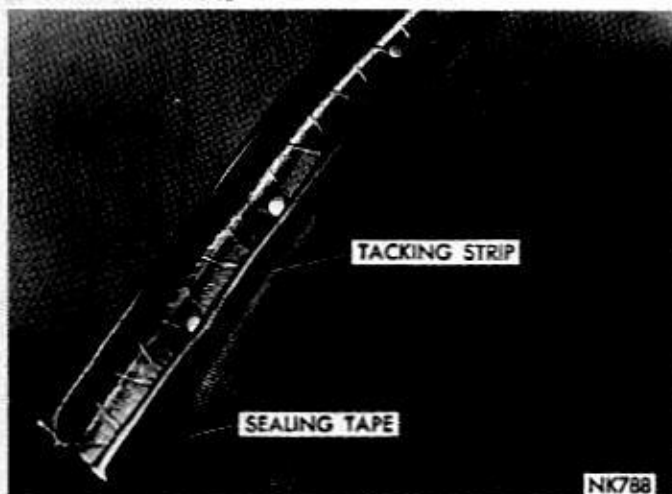

Fig. 9—Rear Bow Tacking Strips
(1) Place protective covers over the deck lid, deck lid upper panel, hood and cowl areas.
(2) Unsnap top boot and lay over rear seat back.
(3) Unzip the backlight and lay in well.
(4) Remove retainers from ends of tacking strip on rear bow and spread tacking strip (Fig. 9).
(5) Using a sharp pointed tool remove staples and tacking strip. **Use care not to damage the top material if the original cover is to be reinstalled. In some instances the staples ends may have become peened**